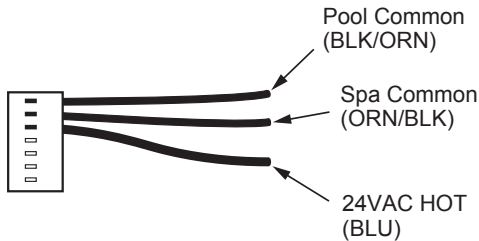

Figure 53. 7-Pin Remote Interface Harness
- On the "Remote Interface Harness", connect the BLUE wire to one side of the "REMOTE" switch and connect the other side to either the ORANGE/BLACK wire for "SPA" operation or the BLACK/ORANGE wire for "POOL" operation. See **Figure 53**.
- On the "Remote Interface Harness" connect the BLUE wire to one side of the "REMOTE" switch and connect the ORANGE/BLACK wire for "SPA" operation and the BLACK/ORANGE wire for the "POOL" operation. See **Figure 53**.